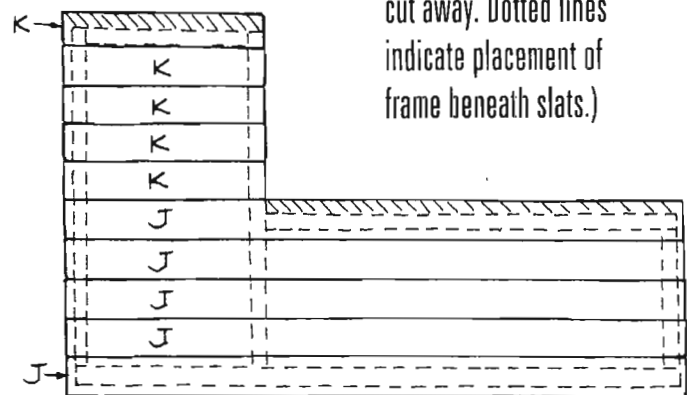

Figure 4
1. Cut five long table slats (J) from 1 x 4 treated lumber, each 56-1/2 inches long.
2. Refer to *Figure 4* to guide your placement of the table slats. Glue and nail one long table slat (J) into the outermost position across the front of the frame so that it overhangs the frame by 1 inch on the front and on each side. Drive two 3-penny finishing nails through the long table slat (J) into the short side (B), and two nails through the long table slat (J) into each of the long sides (A).
3. Glue and nail three more long table slats (J) to the frame, placing the nails as you did in step 2. Position each new slat directly next to the previously attached one, and make sure that all of the ends are even.
4. Place (do not glue or nail) the remaining long table slat (J) in the innermost position, next to the four attached slats. Use a pencil to mark the bottom of the slat where it overhangs the frame (refer to *Figure 4*).
5. Cut off the portion of the long table slat (J) that overhangs the frame. The slats need to be flush with the frame so that the surround will stand right up next to your grill.
6. Replace the long table slat (J), and glue and nail it to the frame in the same manner that you used for the four previous slats.
7. Cut five short table slats (K) from 1 x 4 treated lumber, each 18 inches long.
8. Attach four of the short table slats (K) to the frame over the two long sides (A). The short table slats (K) should be flush with the inner long side (A), and overhang the outer long side (A) by 1 inch, as shown in *Figure 4*. Use glue and drive two 3-penny finishing nails through each short table slat (K) into each of the long sides (A).
9. Place (do not glue or nail) the last short table slat (K) behind the four previously attached slats. Use a pencil to mark the bottom of the short table slat (K) where it overhangs the frame (refer to *Figure 4*).
10. Because I wanted to be able to put my surround (and grill) up against a wall, I cut off the entire portion of the short table slat (K) that overhangs the frame. If you wish, you can cut the short table slat (K) so that it overextends by 1 inch to match the overhang on the front and sides.
11. Replace the short table slat (K), and attach it to the frame with glue and finishing nails just as you did for the four previous slats.